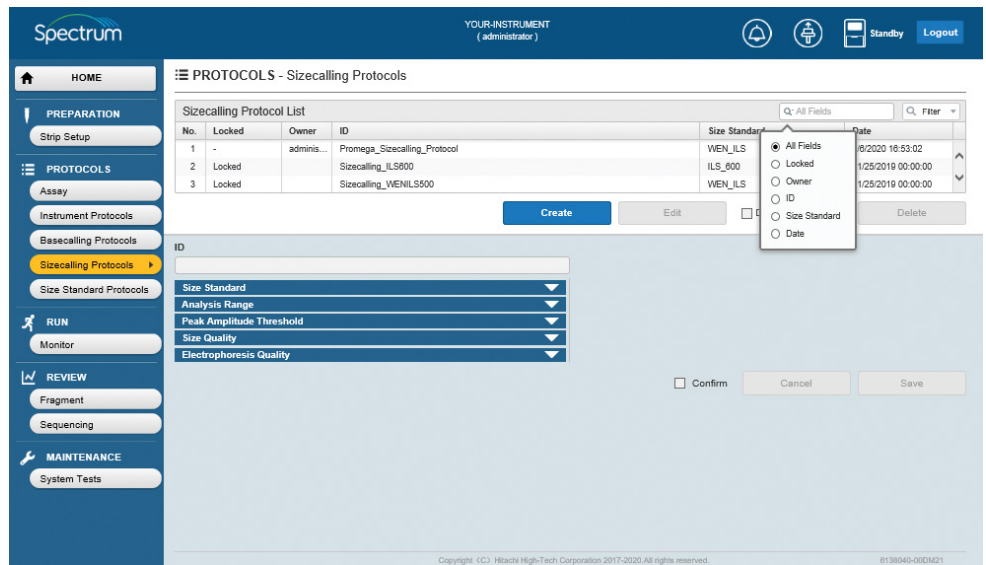

Figure 57. Sizecalling Protocol List select search field radio button window.
2. Data in the Sizecalling Protocol List may be searched and filtered (i.e., searched for based on specific values and filtered such that only sizecalling protocols that meet those criteria are displayed in the Sizecalling Protocol List). Select the magnifying glass icon on the Select Search Field box to display a window with radio button selections that allows you to search by All Fields, Locked, Owner, ID, Size Standard or Date (Figure 57).